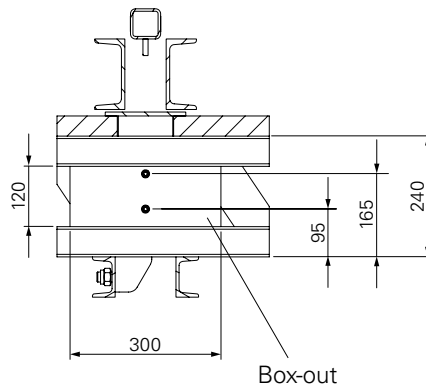

Fig. B1.10a
6. Place additional platform beams (**36a**) on the existing 1 and pre-drill with $\varnothing 8$ mm, laterally spaced at distance c and below with spacings of 95 and 165 mm. (Fig. B1.10a)